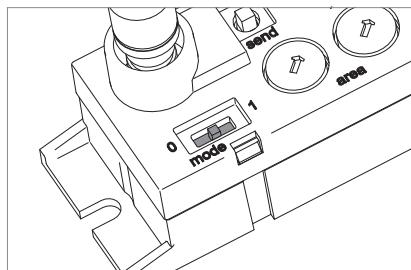

Fig. 13: Luminaire communication activated.
- ▶ Slide the "mode" slide switch to position **1**, see Fig. 13.